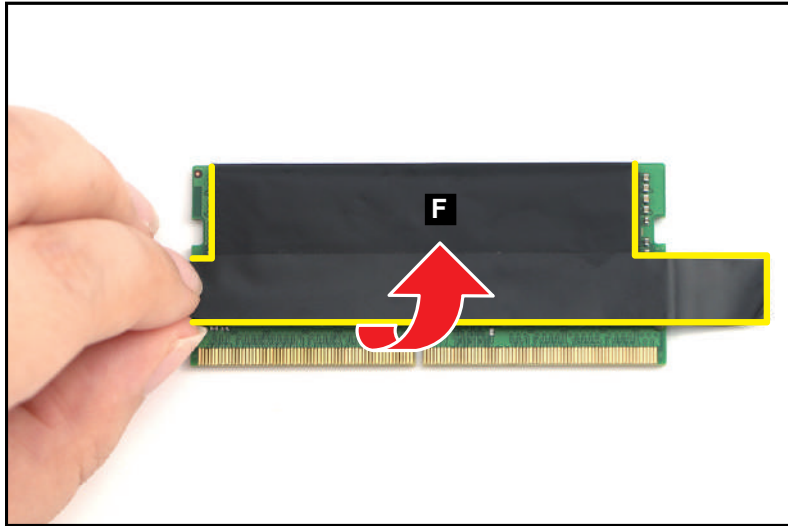

Figure 3-31. DIMM Module Removal
6. Peel off the composite foil with thermal pad (F) from the DIMM module (Figure 3-31).